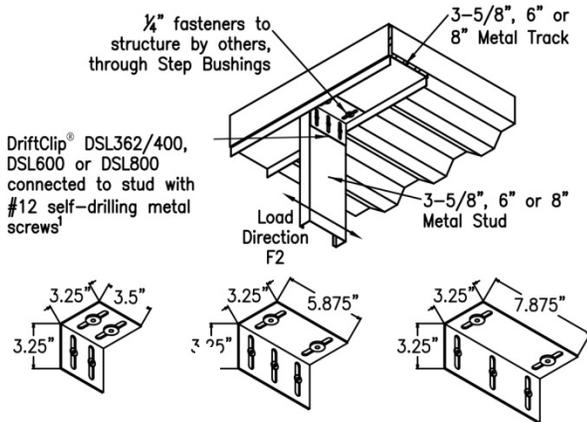

Figure 8 – DriftClip® DSL362/400, DSL600 and DSL800
**3.3.4 DriftClip® DSL:** DriftClip® DSL362/400, 600 and 800 are L-shaped angles that connect  $3\frac{5}{8}$  or 4, 6 and 8 inch deep (92 or 102, 152, and 203 mm) exterior curtain wall steel studs, respectively, at the head of wall to the building's structural frame while allowing for a maximum of 2 inches (51 mm) of vertical, and horizontal movement between exterior wall elements and the primary structure. The minimum base-metal thickness of the clips is 0.0966 inch (2.5 mm). The two legs of the DriftClip DSL362/400, 600 and 800 connectors are equal in length, and each has two or three slots perpendicular to the heel of the angle, each  $\frac{3}{8}$  inch (9.5 mm) wide by  $2\frac{3}{8}$  inches (60 mm) long. The leg that is fastened to the curtain wall stud has bushings designed for #12 self-drilling/self-tapping steel screws installed in the center of each slot. The other leg, which is fastened to the structure, has bushings designed for  $\frac{1}{4}$  inch diameter (6.4 mm) fasteners installed in the centers of the slots. Refer to Figure 8 for overall dimensions of each DriftClip DSL connector and a typical installation detail.